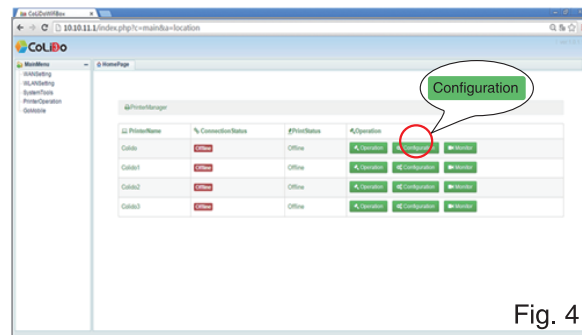
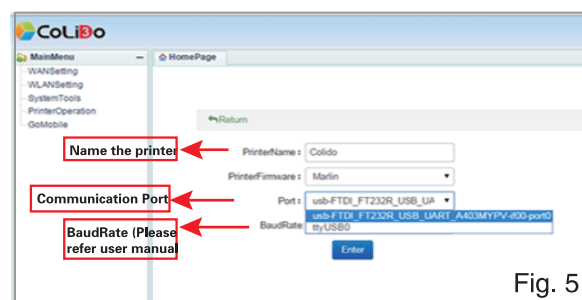

Fig. 4
Fig. 5
- 3 Printer Configuration: Click "Configuration" on Fig. 4 to entre into Fig. 5. Please refer Fig. 5 to set up. After set up printer select "SystemTool" – "Reboot" to reboot wifibox. (If there is more than one printer, please follow the instruction above to set up printers. Maximum connect four printers at the same time.)